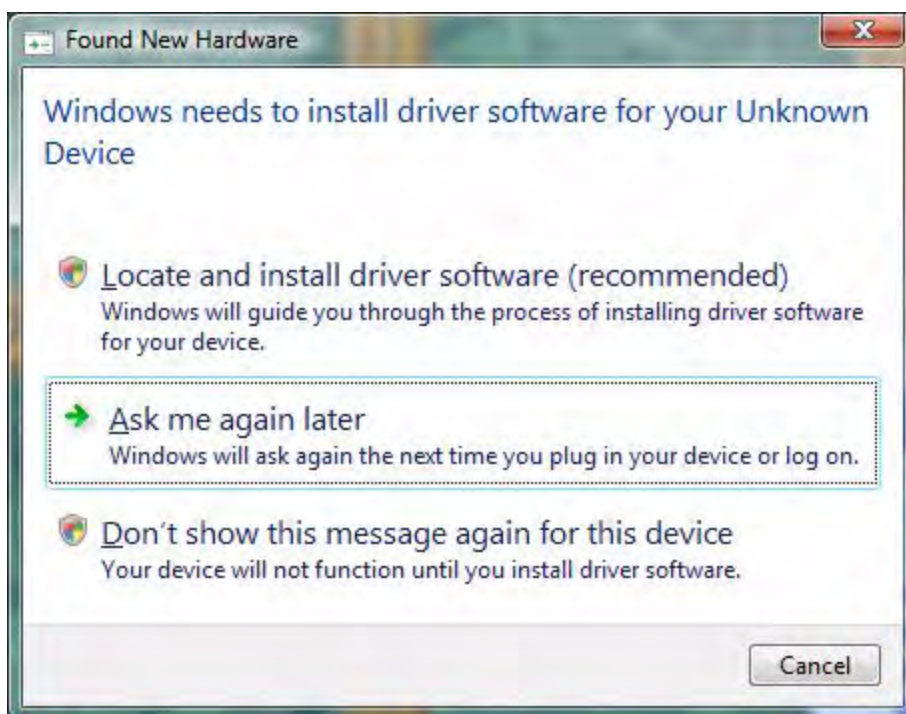

Figure 24. Found New Hardware Dialog, Windows Vista
2. After the PC detects the new hardware, it will display the Found New Hardware Wizard dialog box, shown in Figure 24. Click **Locate and install driver software (recommended)**.